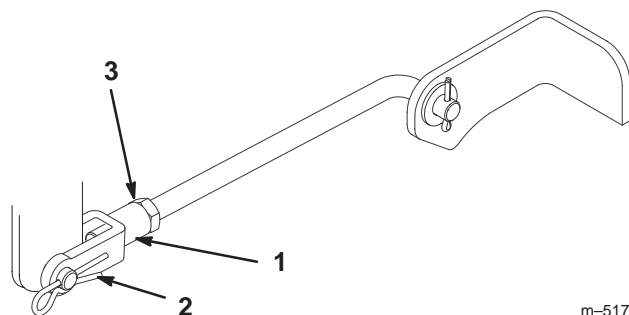

Figure 43
9. To adjust the front-to-rear blade slope, remove the hairpin cotter from the front trunnion yokes and loosen the jam nuts (Fig. 43).
10. Rotate the yokes on the rods to change the adjustment (Fig. 43). To raise the front of the mower, tighten the yokes (shorten the rods). To lower the front of the mower, loosen the yokes (lengthen the rods).